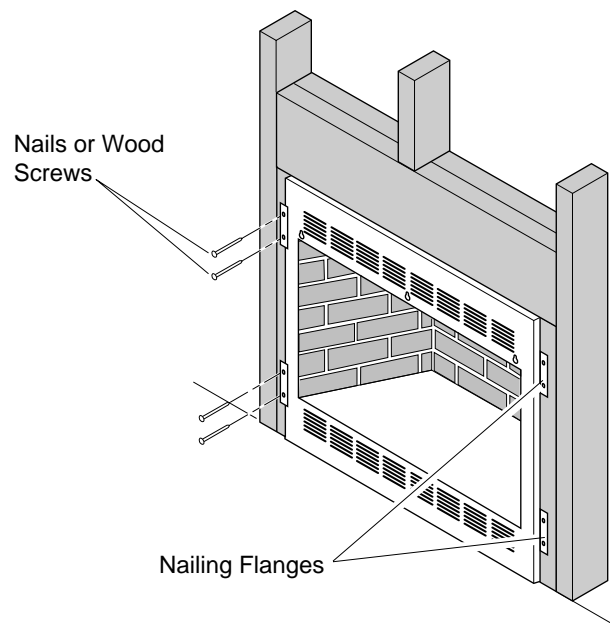

Figure 20 - Attaching Firebox to Wall Studs
7. Attach firebox to wall studs using nails or wood screws through holes in nailing flange (see Figure 20).